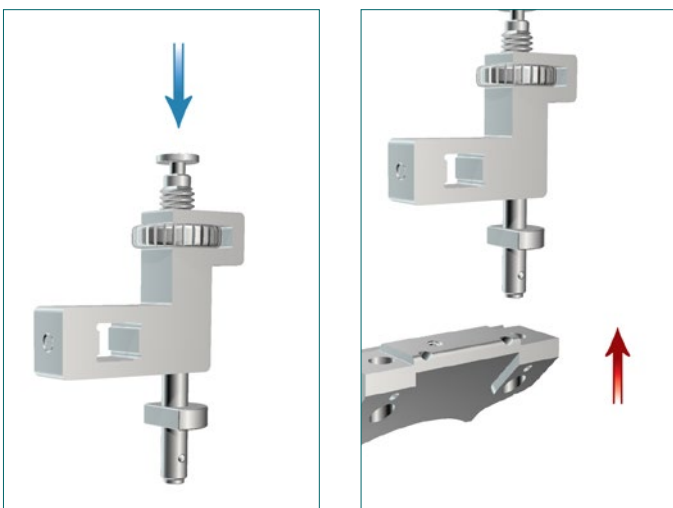

Figure 9
- Assemble the IM Resection Guide to the Superior Resection Guide Block by depressing the plunger on the IM Resection Guide (blue arrow) and attaching the Superior Resection Guide Block (red arrow) [Figure 9].